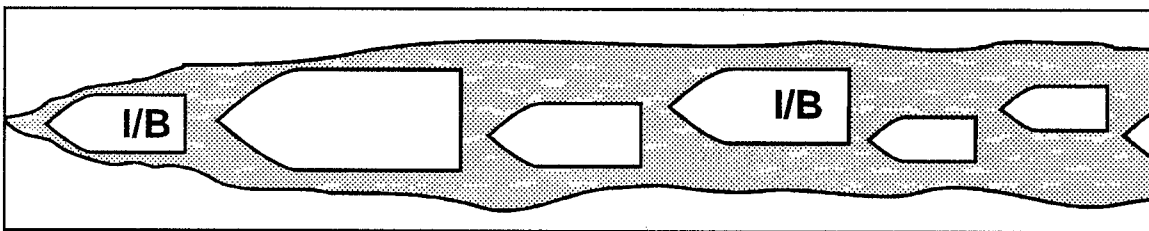

Figure 6-6 Several Ships Escorting Convoy
5. Multiple Escorts. Often several ships will be assigned the convoy escort task. This greatly simplifies the operation. One vessel can break track leaving the other vessel to break a parallel track or assist vessels in the convoy as necessary (See **Figure 6-6**).